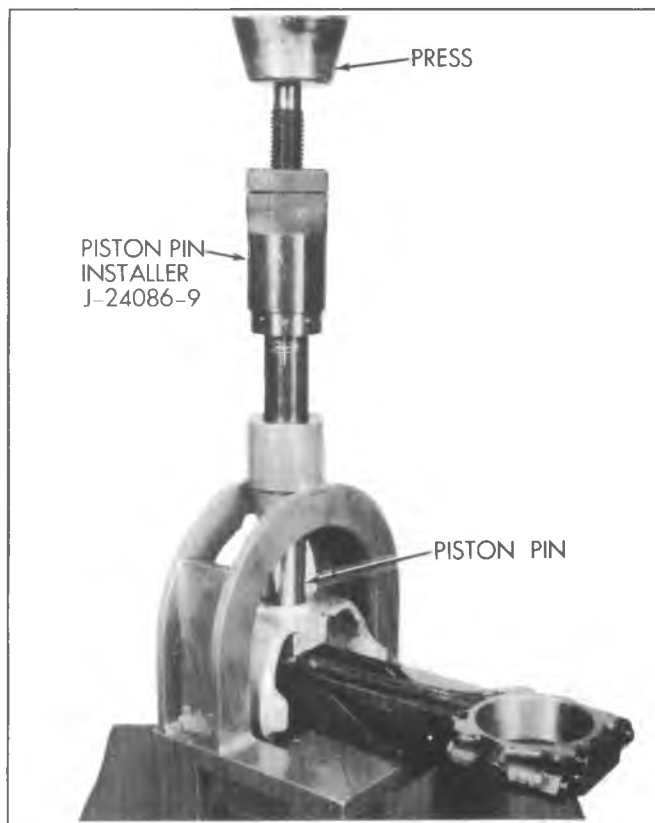

Fig. 6A1-41--Installing Piston Pin
3. Using piston pin installer, J-24086-9, press the piston pin into the piston and connecting rod (Fig. 6A1-41). Make sure installer is set properly (see tool instructions).